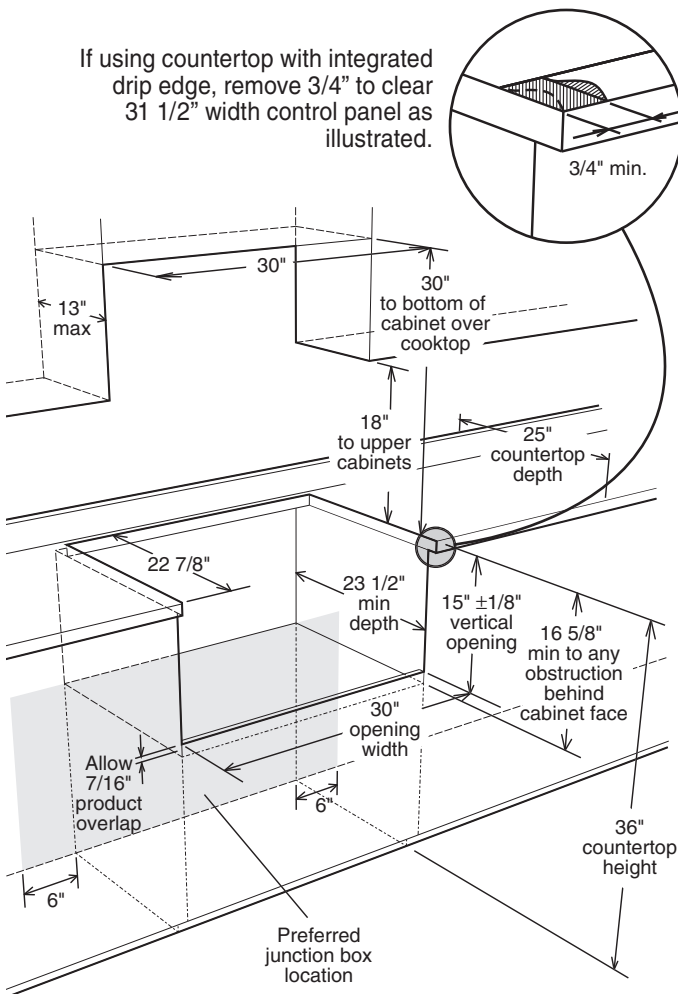

Figure 2
- Dimensions that are shown in Figures 2 and 3 must be used. Given dimensions provide minimum clearance. There needs to be a 30-inch minimum clearance between the top of the cooking surface and the bottom of upper unprotected wood or metal cabinets or a 24-inch minimum when bottom of upper wood or metal cabinets are protected by not less than a 1/4-inch flame retardant millboard covered with not less than no. 29 msg sheet-steel, 0.015-inch stainless steel, 0.024-inch aluminum or 0.020-inch copper. The gray shaded area in the lower part of Figure 2 indicates the location for the electrical junction box.